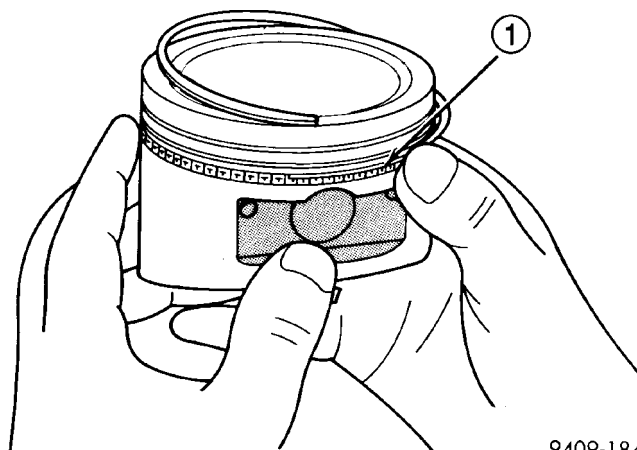

Fig. 83 Installing Side Rail
(2) Install upper side rail first and then the lower side rail. Install the side rails by placing one end between the piston ring groove and the oil ring expander. Hold end firmly and press down the portion to be installed until side rail is in position. **Do not use a piston ring expander (Fig. 83).**